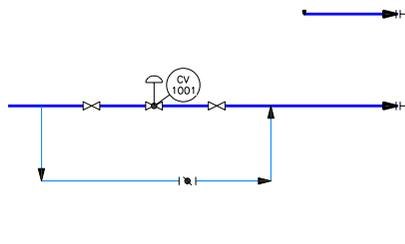

Figure 2-57 Location of the gate valve and butterfly valve on the line connected to the vessel
- Choose **Gate Valve** from the **Valves** area in the **Valves** tab of **TOOL PALETTES - P&ID PIP**, and place it at two locations, as shown in Figure 2-57.
- Next, choose **Butterfly Valve** and place it at the location shown in Figure 2-57.